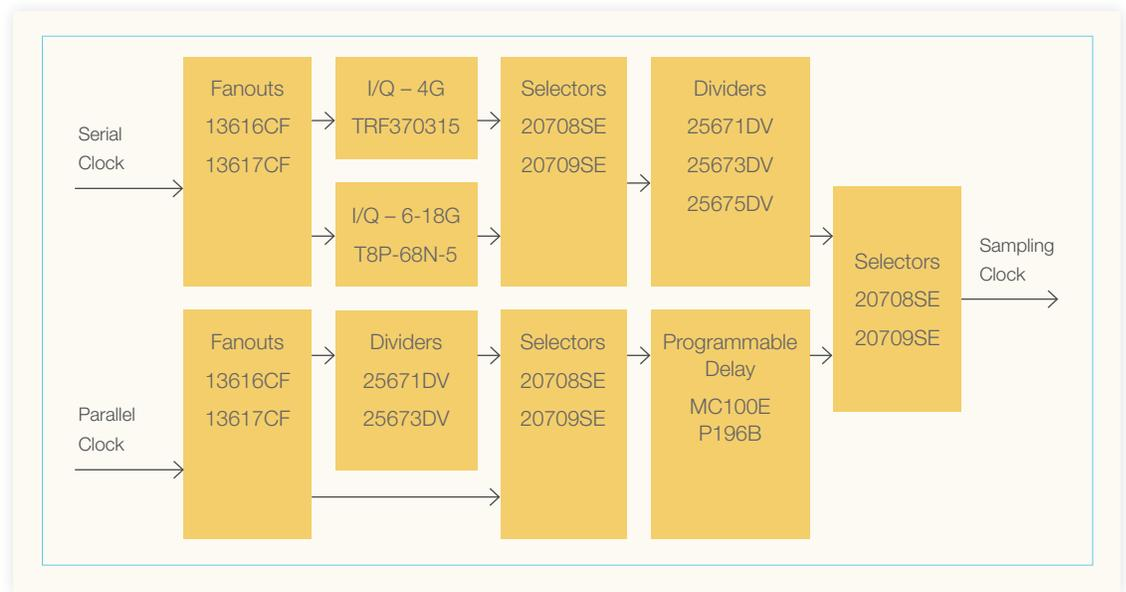

Fig 5.2.1 Timing Generator
**4.2: Timing Generator:** A timing generator takes the serial or parallel clock and generates a sampling clock. If the input clock is a serial clock, then clock dividers are used to bring the clock down to the rate that is compatible with the ADC choice. Not only does the clock have to be brought down to lower rates, it has to be delayed in precision steps to sample the incoming digital signal at various points over one unit interval (UI) so the resulting data eye can be plotted on the screen. The delay generation in high-end DEAs is proprietary to the scope vendors and a highly guarded secret by them. There are simple methods for timing generation using off-the-shelf components shown in Fig 5.2.1.
**5.2: Timing Generator:** The optimal sampling frequency is recommended to be in the range of 20-200 MHz, though it can be as high as 2 GHz. If the input serial or parallel clock is more than 200 MHz, then it can be divided down to get in the range of 20-200 MHz. The divided clock could be selected using a selector chip. Fig 5.2.1 shows the architecture.
**5.2.1: Serial Clock:** An I/Q modulator can be used as a block which shifts the clock in small steps. Typically, the I/Q modulators come in frequency bands. For example, TRF370315 can be operated between 400 MHz to 4 GHz. I/Q modulators can be used as the phase shifter or programmable delay1. To cover broader frequency range, multiple I/Q modulators covering various ranges can be used in parallel. A clock fan-out circuit, e.g. 13617CF, and a selector circuit 20709SE can be used to connect multiple band I/Q modulators as shown in Fig 5.2.1. For high-end performance, the delay steps can be calibrated during production. For operation over temperature, either the delay block is kept at calibration temperature using a thermo-electric-cooler or other temperature stabilization methods, or temperature dependent calibration can be done and a look-up table could be used during operation. Real-time calibration is also possible, but is beyond the scope of this white paper.